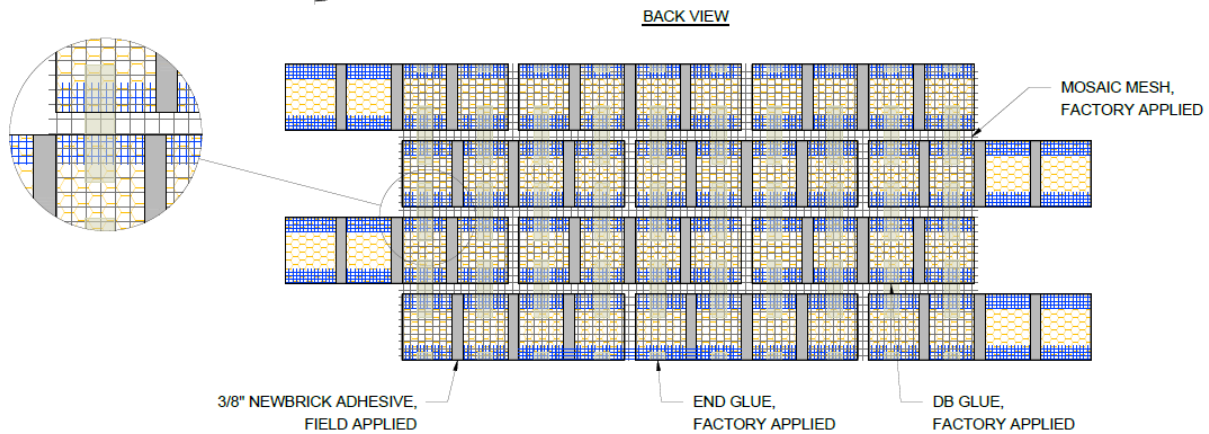

Figure 10: Adhesive Pattern for Modular Mosaic
- b. For NewBrick mosaic adhesive application, see Figure 10.